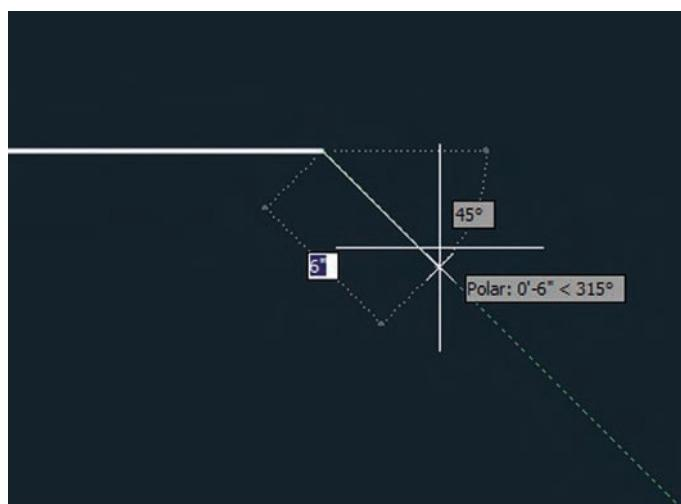

FIGURE 3.6 Drawing a line using Polar Tracking and PolarSnap
4. Move the cursor down at a  $45^\circ$  angle from east, and observe the Snap values that appear with Dynamic Input onscreen. Click when the value is **6"** (or 150 mm) (see Figure 3.6).